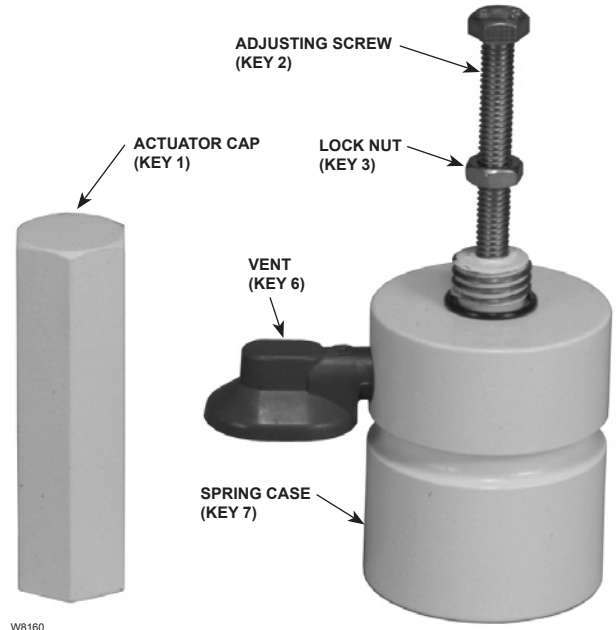

Figure 5. Spring Case, Adjusting Screw, and Actuator Cap
1. Unscrew and remove the actuator cap (key 1) from the top of the spring case (key 7). See Figure 5.
2. Loosen the lock nut (key 3) and turn the adjusting screw (key 2) clockwise to raise the setpoint. (Turning the screw counter-clockwise lowers the setpoint.)
4. When the adjustment is complete, tighten the lock nut (key 3) and replace the actuator cap (key 1).
1. Remove the actuator cap (key 1) and the spring load by unthreading the adjusting screw (key 2). See Figure 5.